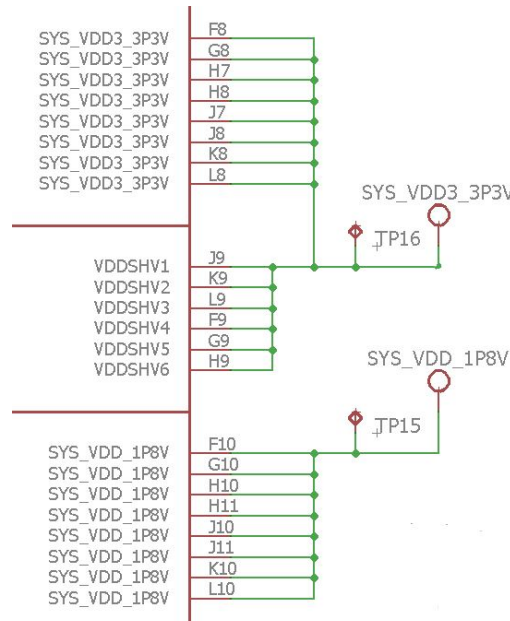

Figure 5: Setting Voltage level for IO pin groups
6. The I/O pins of the OSD335x-BSM/ISM are divided into 6 voltage domains. Each I/O pin group can be set as either a 3.3 Volt level I/O or a 1.8 Volt level I/O. Each of the VDDSHVx pins need to be connected either a 3.3V or a 1.8V rail depending on the application. An example where all the I/O pin groups are set to a 3.3V level I/O is shown in Figure 5.